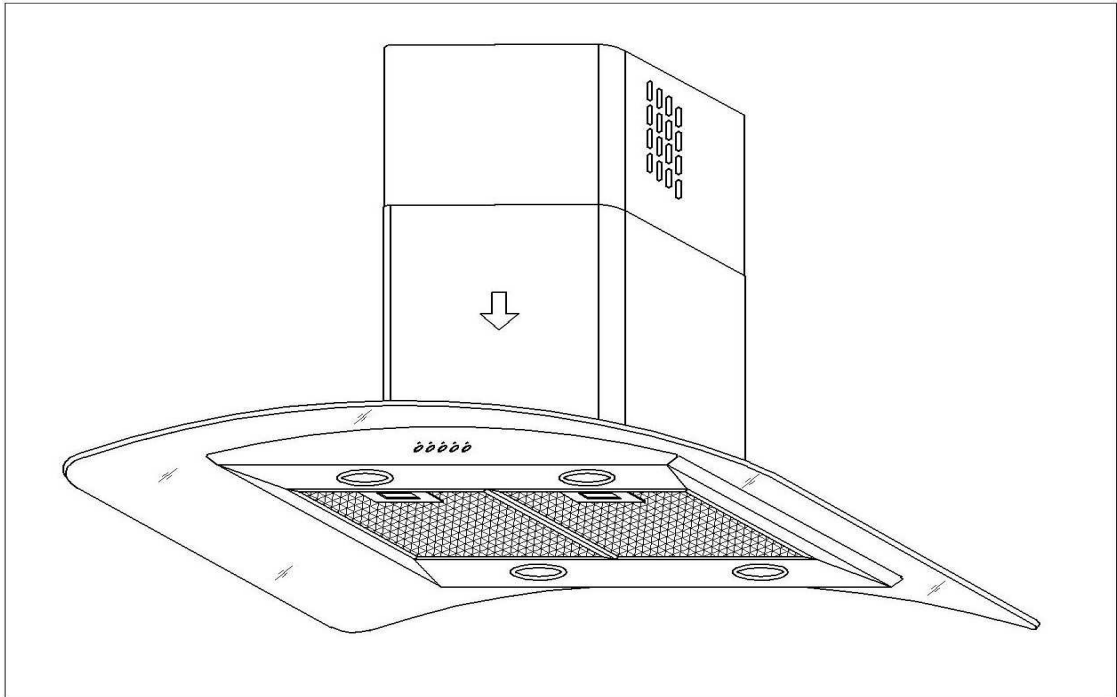

Fig.11
must be placed outside the lower part. Do not connect the canopy exhaust to the same conductor used to circulate hot air or for evacuating fumes from other appliances generated by other than an electrical source. Before proceeding with the assembly operations, remove the anti-grease filter(s) (Fig.11) so that the unit is easier to handle. In the case of assembly of the appliance in the suction version prepare the hole for evacuation of the air.
13. Unscrew the 2 screws **G** and rest the lower chimney piece above the canopy (Fig.11).